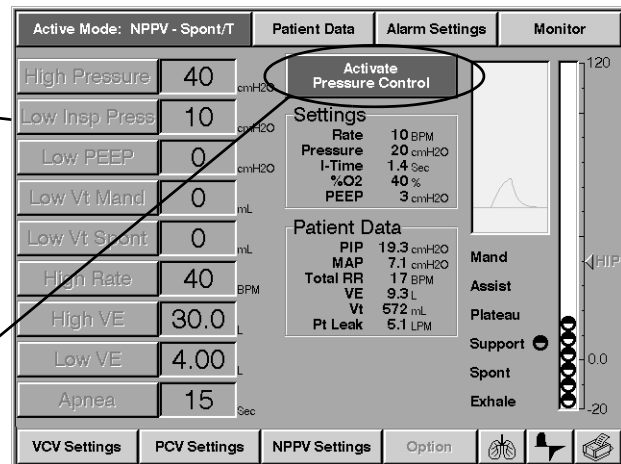

Figure 8-18: Setting Alarm Limits That Are Not Currently Active
- Select the REVIEW ALARMS button to display the alarm settings for PCV (Figure 8-18).
- Notice that all the alarm buttons (Figure 8-18) are grayed out, indicating that the alarm limits are not currently active. The ventilator displays the current value for that set of alarm limits. Push the button for the alarm limit you want to adjust.
NOTE: Any of the changes made in the screen shown in Figure 8-18, do not take effect until the operator switches to the new ventilation breath type (in this case Pressure Control).